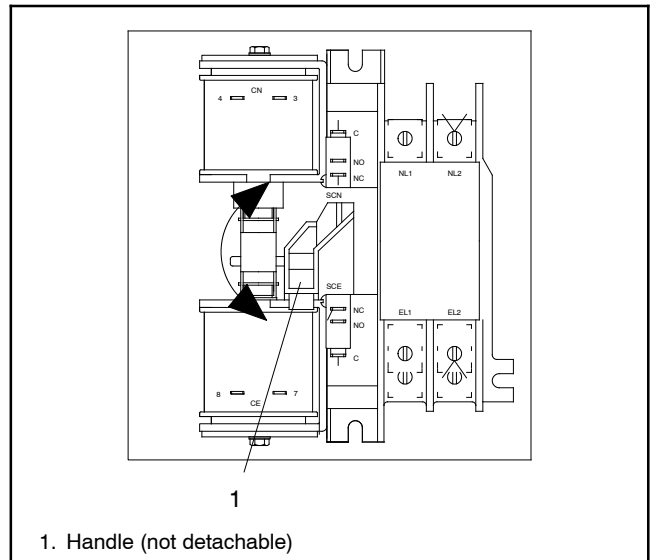
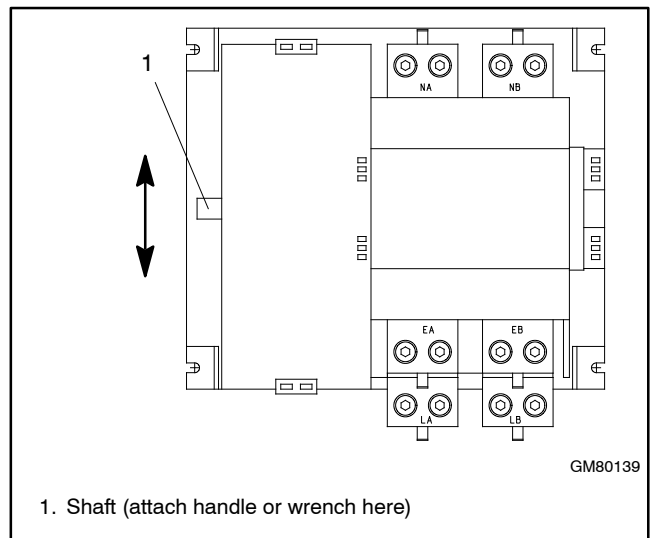

Figure 2-4 Manual Operation, 100 – 200 Amp Single-Phase Switches
Figure 2-5 Manual Operation, 300-400 Amp Single-Phase and 208-240 Volt Switches
- 100-200 amp switches: These switches have an attached handle as shown in Figure 2-4.
400 amp switches: Slide the detachable handle or a wrench over the shaft. See Figure 2-5.
- Move the handle up to place the transfer switch in the Normal Source position or down to place the contactor in the Emergency Source position. See Figure 2-4 or Figure 2-5.